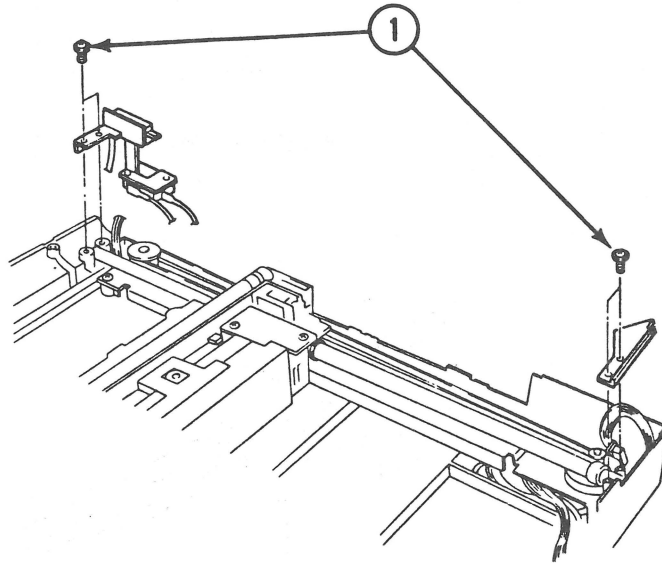

FIGURE 15
10. Put the two shaft plates on each end of the shaft and secure them with the four screws (Figure 15, #1). Make sure that the scanner switch cable and connector are sticking out at the front corner of the front plate, so that the connector can be attached later to the top case.